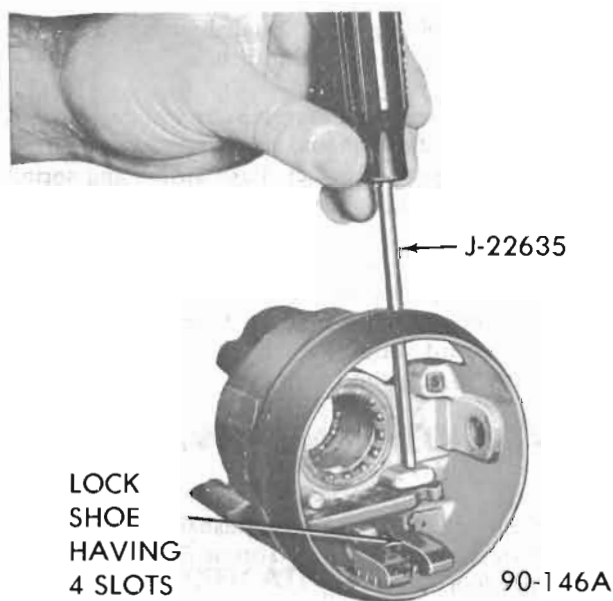

Figure 90-123 - Removing Release Pin
5. Remove lock shoe pin with Tool J-22635 and hammer. Remove lock shoes and lock shoe springs. See Figure 90-123.